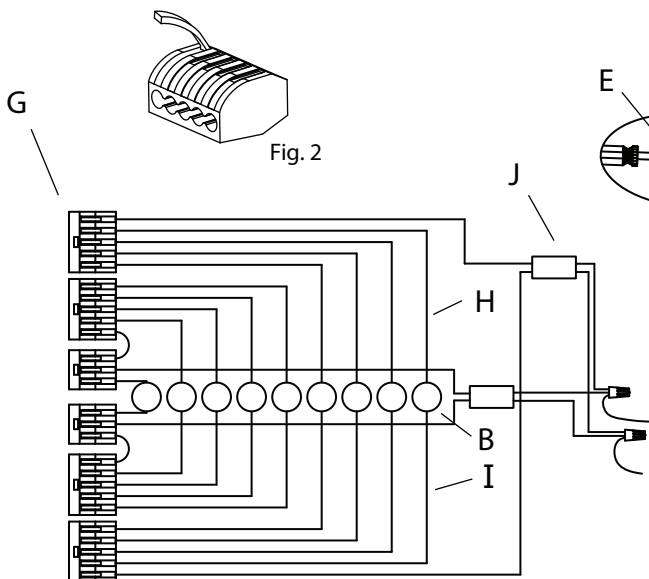

Fig. 3
1. Shut off power to the outlet box. (A)
2. Feed the power cords (B) through the bushings (C) on canopy (D).
3. Determine the height at which the fixture is to be hung. Use the screwdriver (E) to loosen the set screw (F). Adjust the cord (B) to the desired length. Tighten the set screws to set.
4. Connect the fixture wires to the lever nuts (G) by pulling up on the lever for an empty slot (Fig. 2), inserting the wire, and pushing the lever back down to lock. The white inner conductor (H) and black outer conductor (I) on each cord (B) must be connected to separate lever nuts, as shown (Fig. 3).
5. Reserve transformers (J), extra cords (B) and lever nuts (G) in canopy (D).
6. Loosen the screws on the safety cable coupling (K) and undo the loop. Pass the safety cable through a hole on the cross bar (L) and insert the end back through the coupling to form a loop. Tighten the coupling screws to secure the safety cable.
- a. Connect the transformer (J)'s live wire (black) to the live outlet box wire.
- d. Carefully place connections in outlet box (A).
8. Attach cross bar (L) to the outlet box (A), secure with outlet box screws (M).
9. Attach canopy (D) to nipple (N), secure with large washer (O) and finial (P).